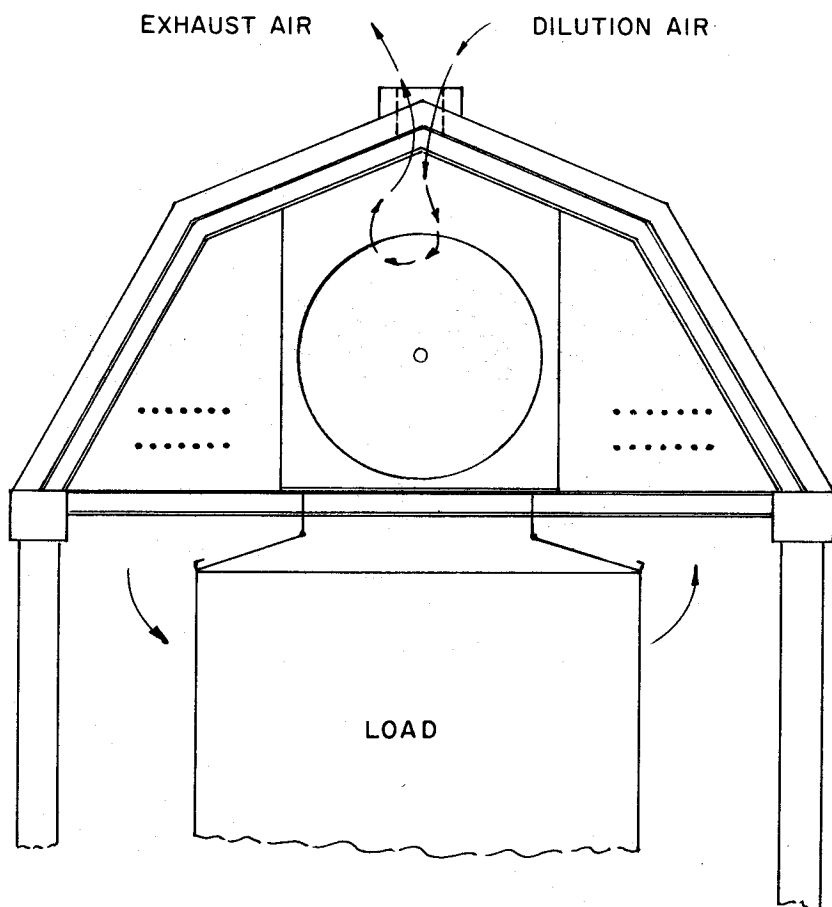

Figure 1. Single track kiln-conventional venting
Let me remind you that the 12 percent of the drying energy for venting assumed 100 percent efficiency--it could really be two (2) times this amount. As you can see, the venting of the kiln is a very inefficient process, Figure 1. Therefore, we believe much of the discrepancy between theoretical and actual energy required can be found in the venting of the kiln.